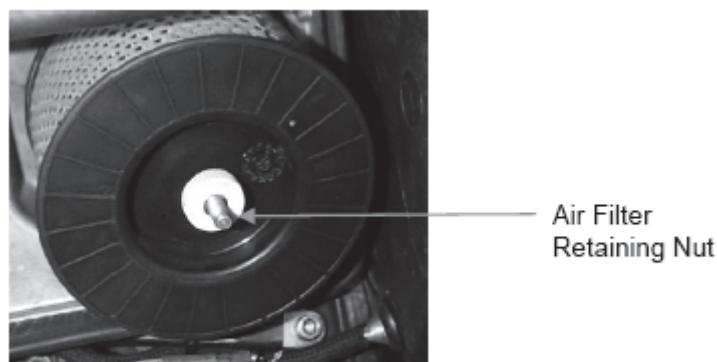

Figure 10 Air filter retaining nut
34.4 Undo the Air Filter Retaining Nut (Figure 10) and remove the Air Filter. The Air Filter is a tight fit on the centre spindle and may require rotating along the threads to release and withdraw it.